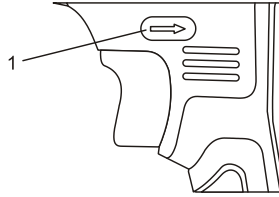

Fig. 4
This impact wrench is equipped with a forward/reverse switch (1) (Fig. 4).
2. Set the forward/reverse button to the RIGHT for removing fasteners (Fig. 4).